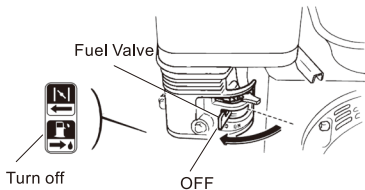

Fig.15
3). Turn the fuel valve OFF. (Fig. 15)